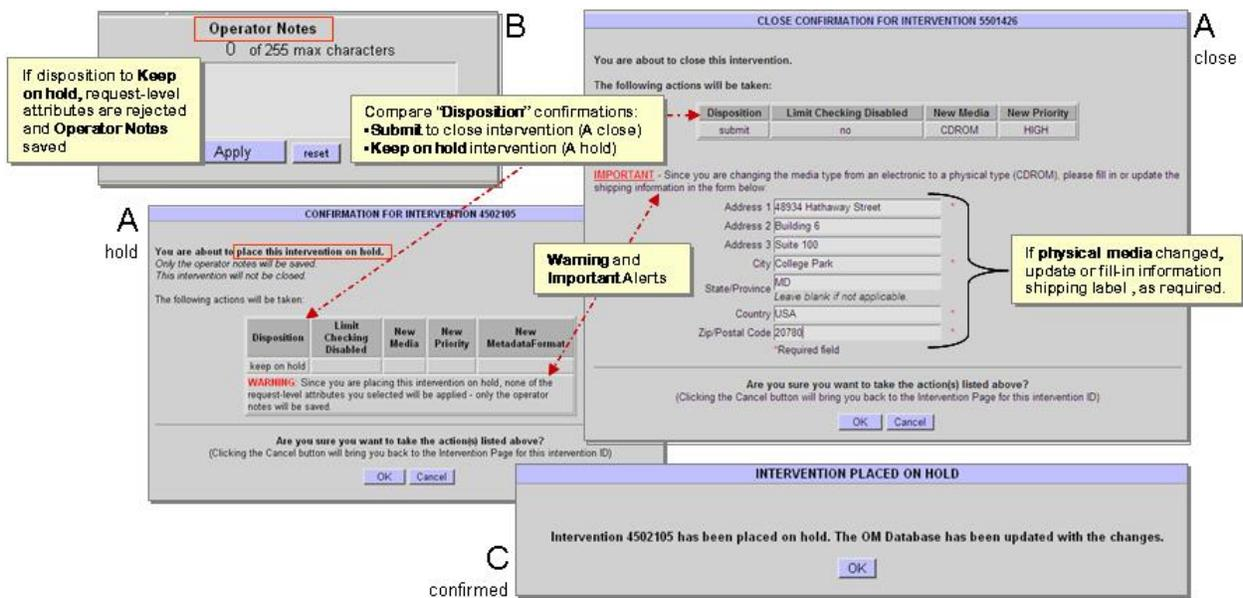

Figure 15.6-9. Close Confirmation for Intervention (FTPPush/SCP to CDROM)
- **Close Confirmation for Intervention** (Figure 15.6-9, Frame A) page displays.
NOTE: If the intervention involved changing the medium from electronic to physical media, text boxes for entering shipping information displays on the Close Confirmation for Intervention page (shown in Figure 15.6-9, Frame A close). The display will indicate “placed on hold” for suspended interventions (shown in Figure 15.6-9, Frame B hold).
- ▶ Type **<appropriate values>** in the required text boxes for input/update to mailing/delivery label (Figure 15.6-9, Frame A close).